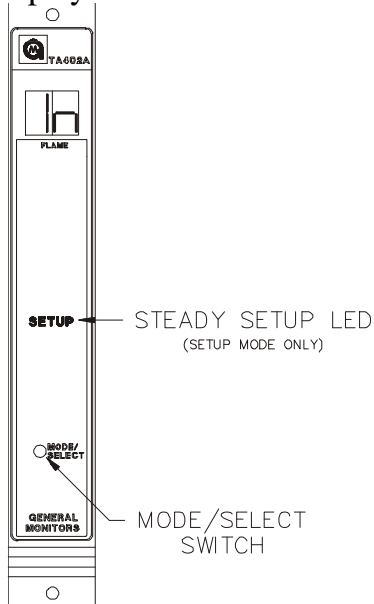

Figure 15
- **This option applies to the Setup Mode only:** If the password option is disabled, or after the correct password has been entered, the display will indicate **In** for five seconds (figure 15). Pressing the Mode/Select switch while **In** is displayed, will cause the unit to enter the Inhibit mode by inhibiting the alarm outputs. After the Model TA402A has entered the Inhibit mode, pressing the Mode/Select switch causes the unit to return to normal operation (see section 5.3). If it is desired to enter the Setup Mode, do not press the Mode/Select switch for the five seconds **In** is displayed.
Whenever the Inhibit Mode is entered (see section 5.2), the A1 and A2 rear terminal alarm outputs are inhibited. The front panel A1 and A2 LEDs will still function normally, in cases where sufficient UV/IR radiation is present. If the password option is disabled, or after the correct password has been entered, the display will indicate **In** for five seconds (figure 15 on page 19). Pressing the Mode/Select switch while **In** is displayed, will cause the unit to enter the Inhibit mode by inhibiting the alarm outputs. After the Model TA402A has entered the Inhibit mode, pressing the Mode/Select switch causes the unit to return to normal operation. If it is desired to enter the Setup Mode, do not press the Mode/Select switch for the five seconds that **In** is displayed.